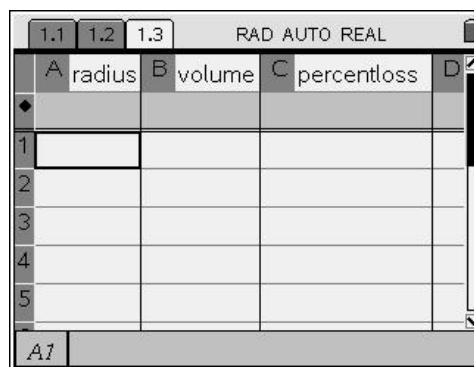

Figure 27
27. Next widen the columns so the entire column heading is visible. Move to the first column and arrow up until the entire column is shaded. Press MENU 1 2 1 for Menu, 1:Actions, 2:Resize, 1:Resize Column Width. Arrow to the right until the word, “radius” is visible. Press ENTER to fix the column width. Repeat this process for the next two columns. (Figure 27)